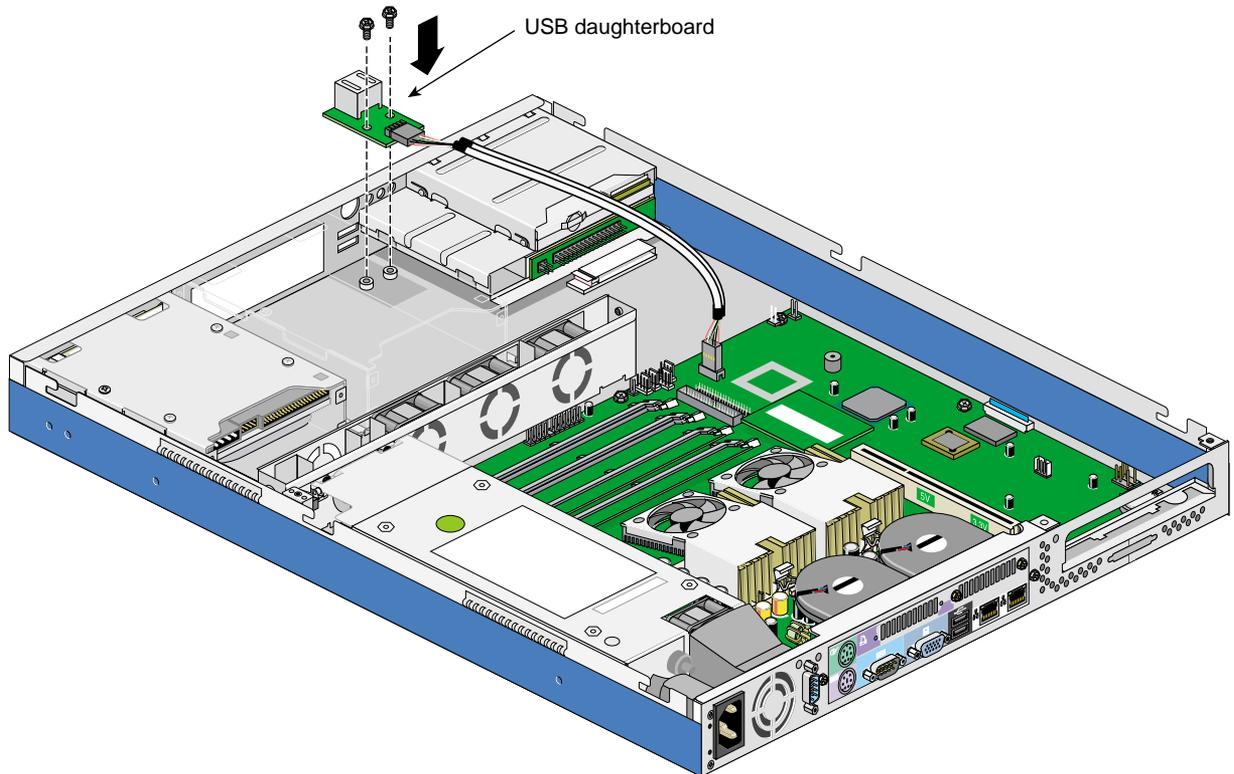

Figure 2-22 Installing the USB Daughterboard Cable Module
1. Set the USB daughterboard cable module in place and secure it with two screws as shown in Figure 2-22.